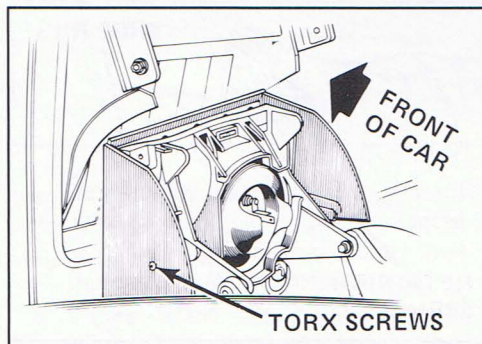

Figure 3 - Left side of left hand headlight
9. Remove the Torx screws from each side of the black plastic outer bezel. See Figure 3.